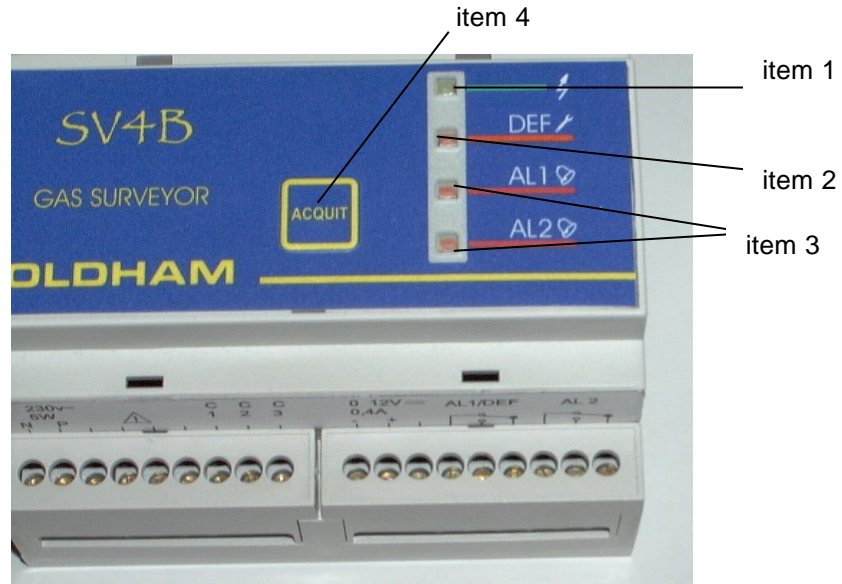

Figure 8
As soon as the SV 4B is supplied with power, it is ready to use and the GREEN light-emitting diode lights up (rep 1, Figure 8).
Therefore, the red light-emitting diodes "AL1" and "AL2" (rep 3, Figure 8) come on as soon as the alarm thresholds are exceeded (time delay of 7 seconds): LED flashing. The audio alarm (buzzer) is activated and the corresponding relays are tripped.
The SV 4B is equipped with a fault alarm (visual alarm (rep 2, Figure 8), audio alarm and relay 1) which is activated in the following cases:
Adjust the alarm potentiometer (rep 1, Figure 8) to trigger the first threshold (AL1): the red LED (AL1) flashes (for 7 seconds) and then remains on in steady mode, trip the corresponding alarm relay.
If you wish to lock the alarm relays (inhibiting the relays) during these alarm threshold adjustments: set the maintenance switch to the high position (item 2, Figure 8).
Terminal posts item 3, Figure 8) are used to connect up a voltmeter for the reading of a signal (in mV) corresponding to the content level of the injected gas.
Then, using a rule of three, it is possible to calculate and adjust another signal (in mV) for an alarm threshold (potentiometer: item 1, Figure 8) corresponding to a different gas content level.
A switch (item 4, Figure 8) is used to acknowledge gas alarms in manual mode or automatic mode.
Manual mode: When a gas alarm is triggered, it must be cleared manually even if the content level has fallen to zero (or to below the threshold). This is done by pressing the Ack. key (item 5, Figure 8).